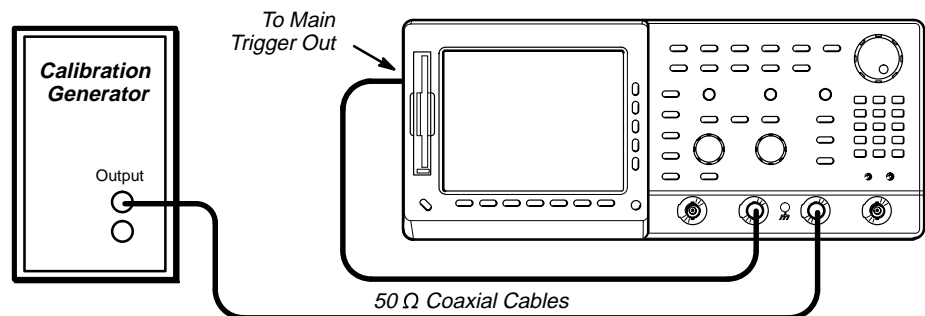

Figure 1-21: Initial Test Hookup
- Connect the standard amplitude output of a calibration generator through a 50 Ω precision coaxial cable to **CH 3**. See Figure 1-21.
- b. *Hook up test-signal source 2:* Connect the **Main Trigger Out** at the rear panel to **CH 2** through a 50 Ω precision cable. See Figure 1-21.